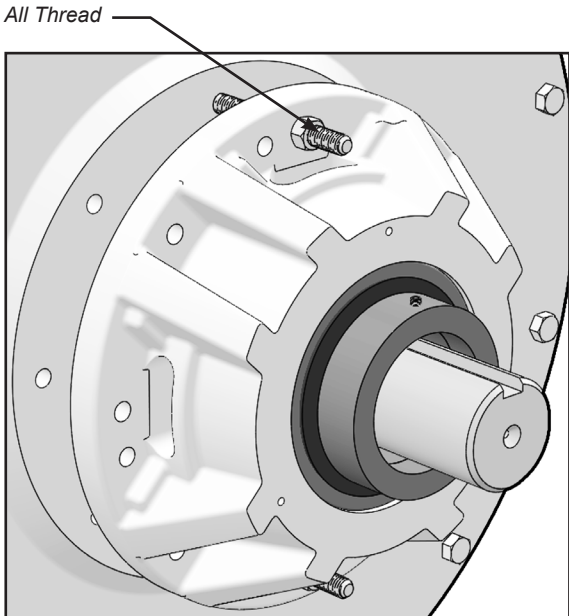

FIGURE 17
- 24. Install all thread rod and nut into opposing holes (Figure 17).